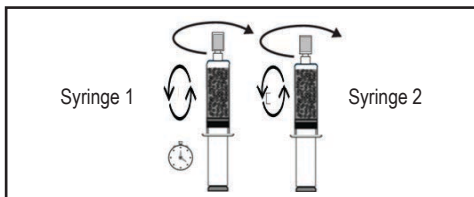

Figure 12.
- 2.8 Mix by gently inverting/swirling the loading syringe every 5 minutes (Figure 12). Hard shaking may cause foam.